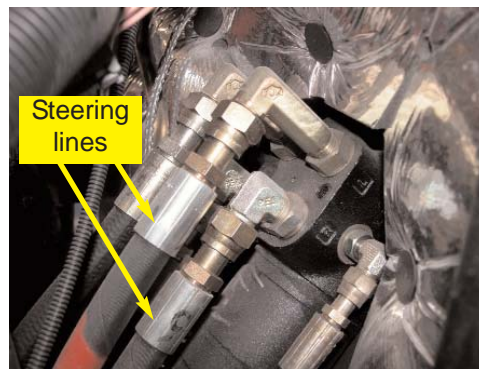

Figure 4c. Steering lines at the steering orbital.
- d. Locate the two tractor steering lines on the left side of the steering orbital. (Figure 4c.)